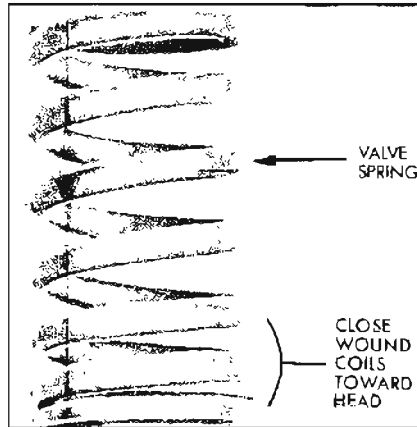

Figure 2-21—Valve Spring
12. Lube with "Service MS" engine oil and reinstall valves, valve springs, caps and cap retainers, using same equipment used for removal. Install valve spring with closely wound coils toward the cylinder head. See Figure 2-21.